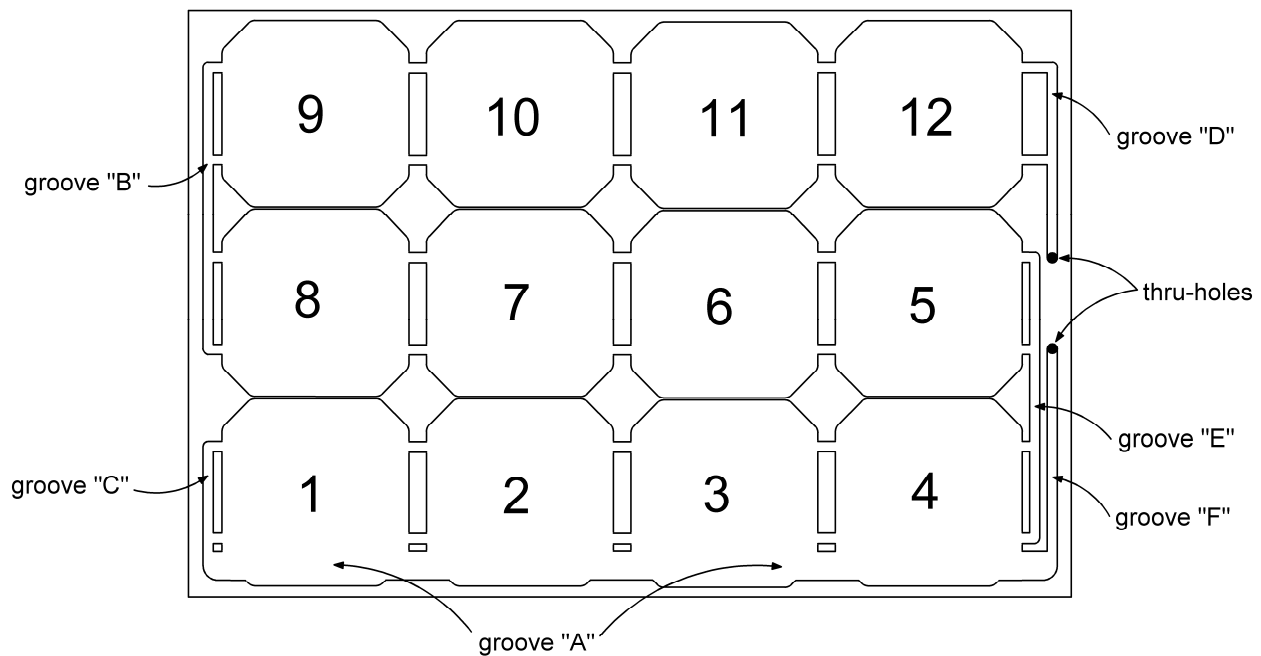
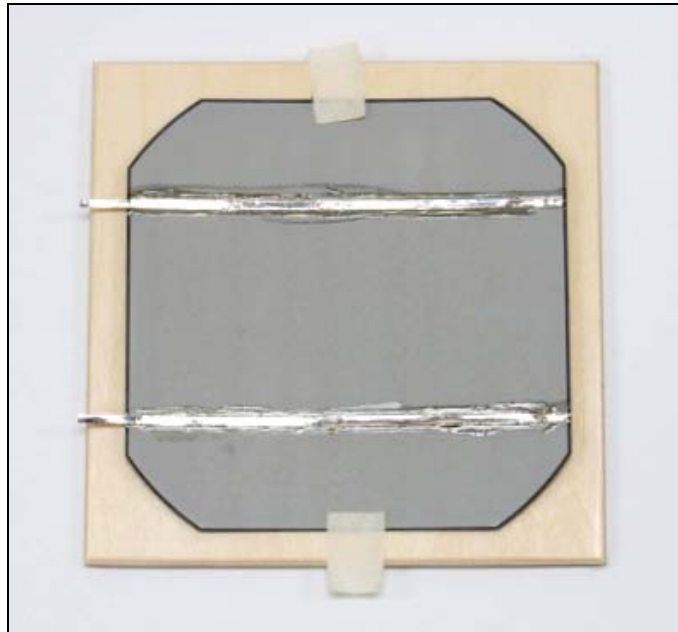

Figure 2
Figure 21
- ✓ On a flat and clean work surface, remove the protective film from the backside of the Base Panel (the polycarbonate sheet that has routed out cavities) and orient it as shown in Figure 2. The two thru-holes should be on the right side and the cavities should be facing up. You may wish to use a pen and label the cell locations (1-12) as shown.
Step 7 — Preparing cells for Base Panel cavities 2,3,4,6,7,8,10,11, and 12 (refer to Figure 2)
Step 8 — Preparing cells for Base Panel cavities 1, 5, and 9 (refer to Figure 2)
- ✓ Cut (6) tabbing wires, 5.25" long.
- ✓ Following the same flux and soldering procedures in Step 7, place the tabbing wire so that it extends past the edge of the cell 1/2", as shown in Figure 21.